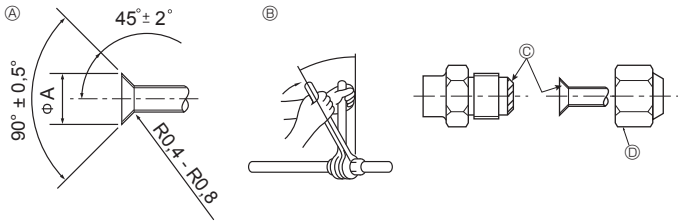

Fig. 4-1
4.2. Rohranschlüsse (Fig. 4-1)